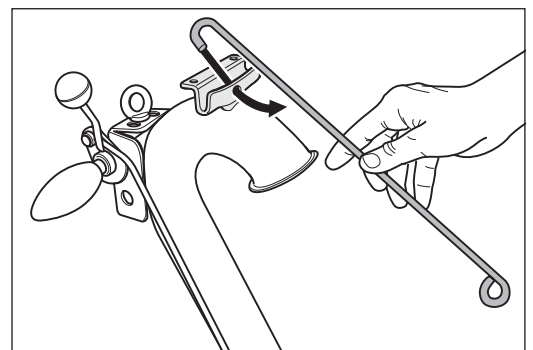

Fig. 5 Mount the cable support to the console at the top of the guide tube.
- 5 Mount the cable support to the console at the top of the guide tube (Fig. 5).